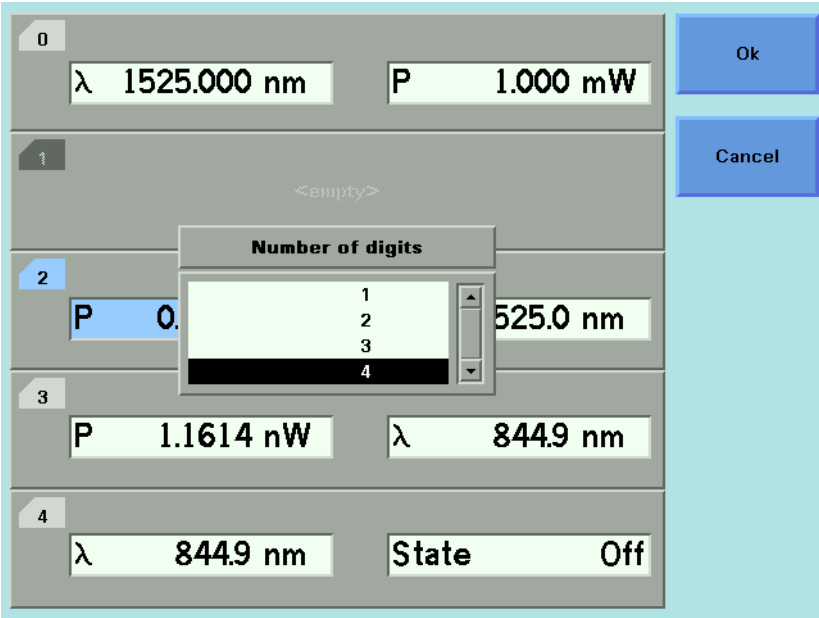

Figure 56 The Number of Digits Menu
- 2 Move to  $\langle \text{Number of Digits} \rangle$  option and press *Enter*. You will see the screen in Figure 56 on page -100.